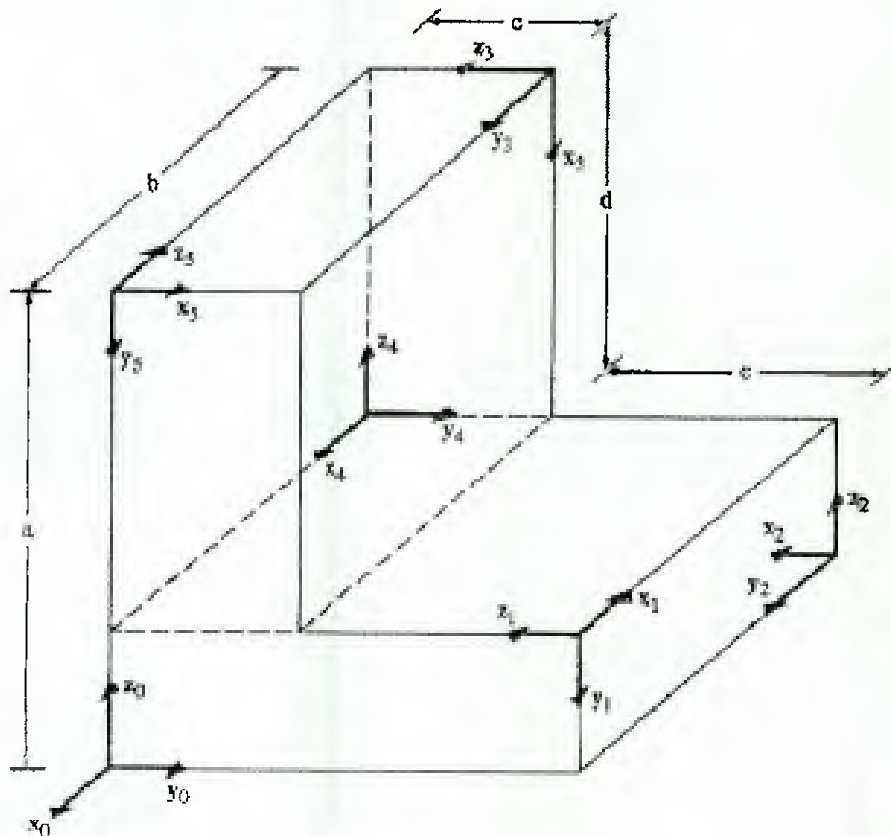

Fig. 1
b)	For the given Fig. 1, find 4 X 4 Homogenous Transformation Matrices